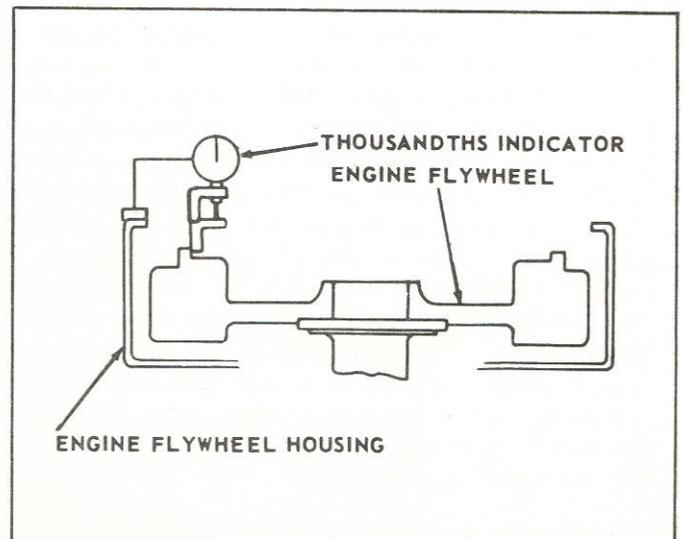

Figure 40. Checking the Isolator Pilot Bore of the Engine Flywheel.
E. Checking Isolator Pilot Bore of Engine Flywheel. With the indicator bolted as in Paragraph 50D above, adjust the indicator stem so that it will ride on the isolator pilot bore (fig. 40). The pilot bore eccentricity of the engine flywheel should not exceed .005 inch maximum total indicator reading.